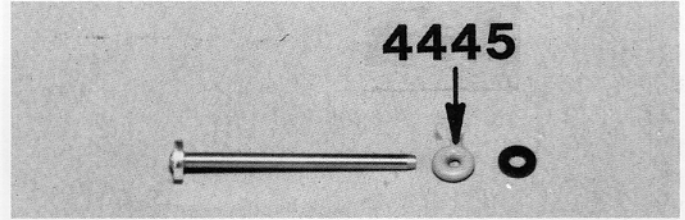

Fig. 41
□ **Fig. 41**—Slip the red O-ring onto the shock shaft and then slip the black plastic washer on.